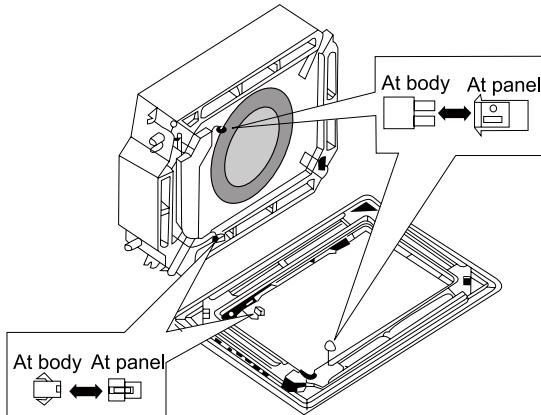

Fig.34
(4). Wire the swing flap motor as shown in Fig.34.